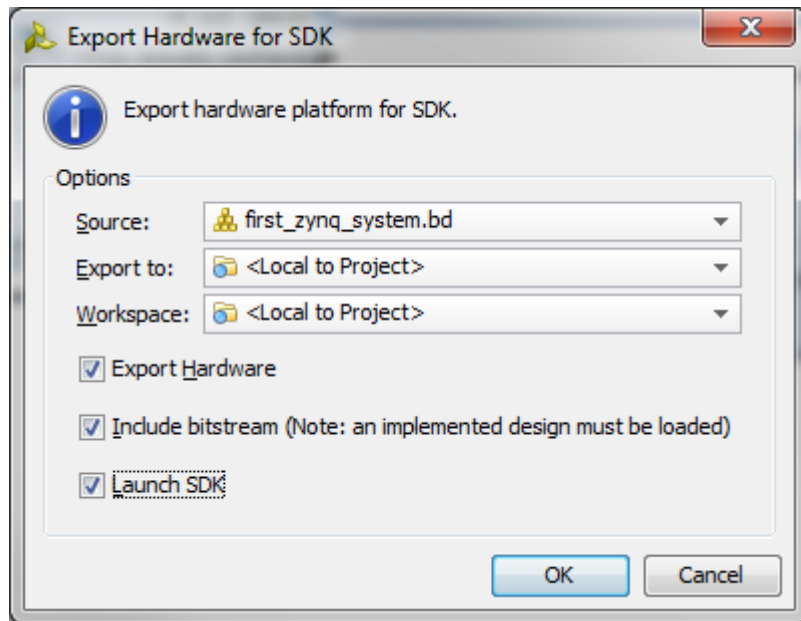

Figure 1.21: Export Hardware for SDK
- (t) The *Export Hardware for SDK* dialogue window will open. Ensure that the options to **Include bitstream** and **Launch SDK** are selected, as in Figure 1.21, and click **OK**.